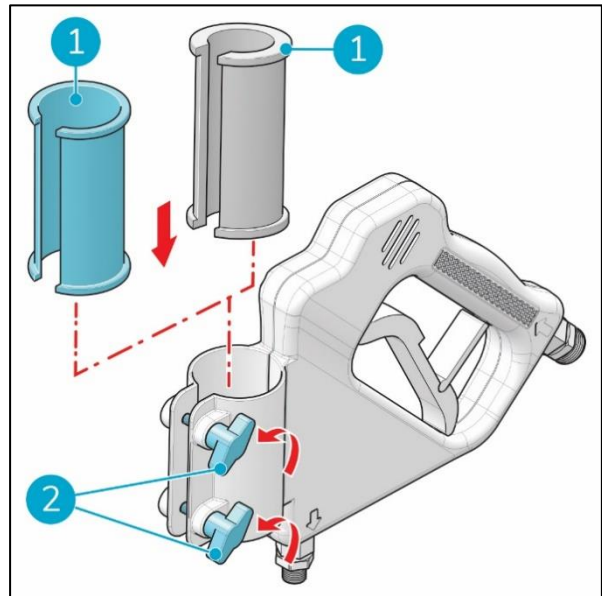

Figure 6
1. Turn the two wing screws (Figure 6, pos 2) anticlockwise to loosen them.
2. Insert the grey or blue rubber hose grip in the power handle (Figure 6, pos 1). Depending of which type of tubes you use.